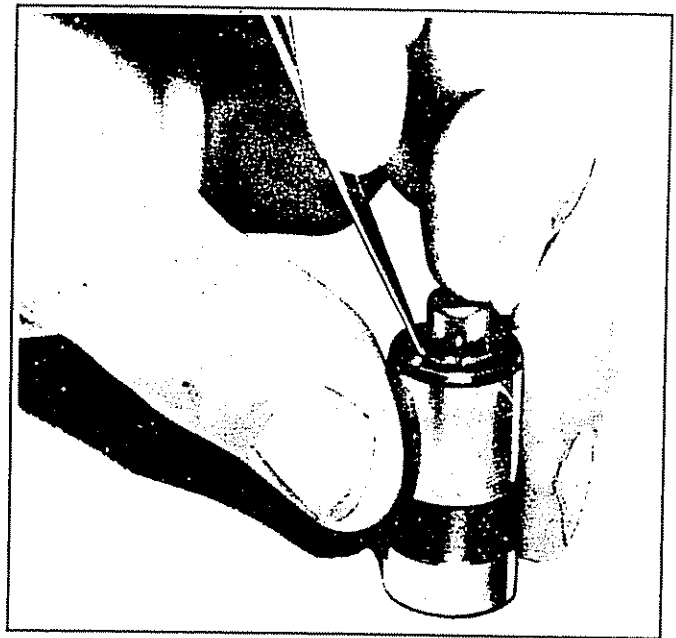

Fig. 6A2-14--Installing Ball Check Valve
2. Remove the push rod seat and metering valve (Fig. 6A2-12).
4. Remove the ball check valve and spring by prying the ball retainer loose from the plunger with the blade of a small screw driver (Fig. 6A2-13).